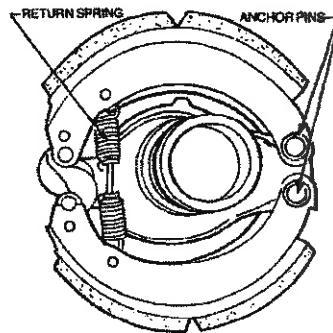

Figure 30 Brake Shoe Removal
- c. Using a pair of brake shoe pliers, remove the brake shoe return spring (Figure 30).